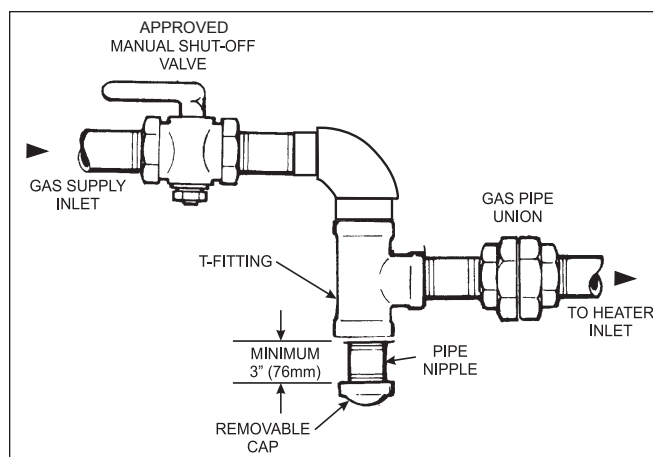

Figure 6. Proper Design for a Sediment Trap/Drip Leg
4. Install a sediment trap (drip leg) ahead of the gas controls (see Figure 6). Fit the trap with a threaded cap which can be removed for cleaning.